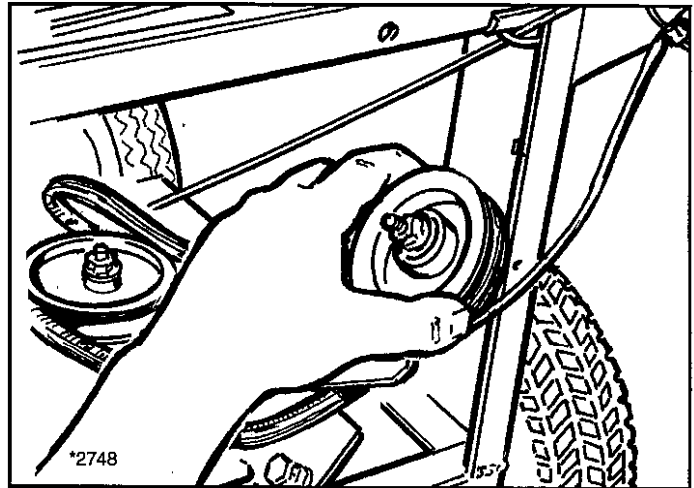

Figure 44. Pull Idler Pulley Assembly Back And Wrap Drive Belt Around Upper Idler Pulley
7. Pull the pivoting idler pulley assembly back up into normal position, wrapping the drive belt around the upper idler pulley. At this point, the slack loop at the other end of the belt should be toward the drive belt pulley plate mounting area (Figure 44).